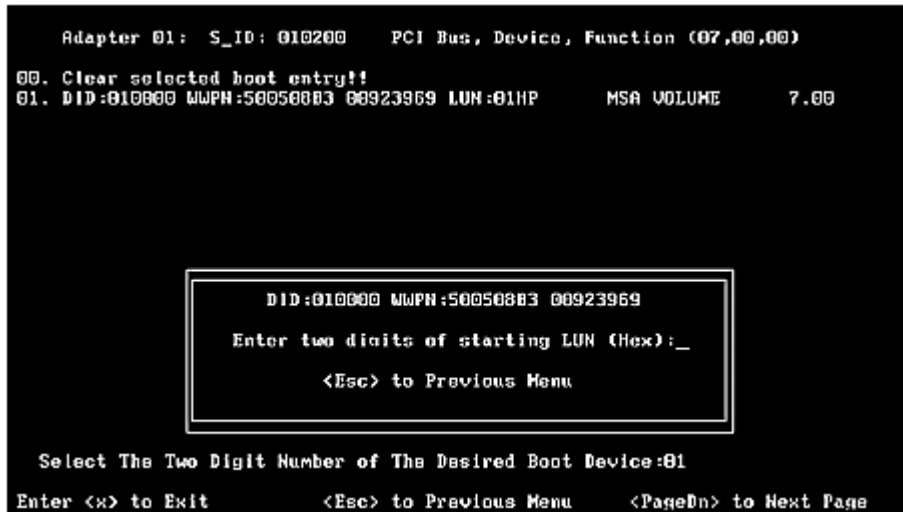

Figure 5: LUN listing screen
4. If you select a device, you are asked for the starting LUN. Enter the starting LUN (Figure 5). The starting LUN can be any number from 0 to 255.